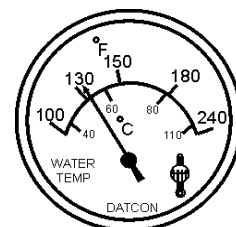

Figure 50. Coolant
10. The **coolant temperature gauge** (Figure 50) will indicate the coolant temperature. Under normal operating conditions the coolant temperature should be between 165 and 203 degrees Fahrenheit (**Green Zone**).